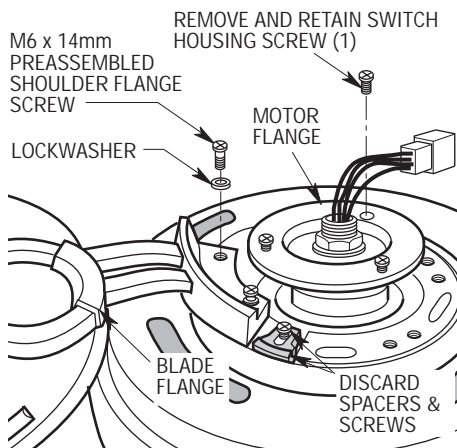

Figure 7
- 13. Remove the shipping spacers from the motor before installation of blade assemblies. Discard the spacers and spacer screws (Figure 7).
- 14. Position the blade flange on the motor hub so that the preassembled screws in the blade flange align with the two threaded holes in the motor hub (Figure 7).
- 17. Remove one of the switch housing screws from the motor flange and retain for future installation. Loosen the two remaining screws (Figure 7).